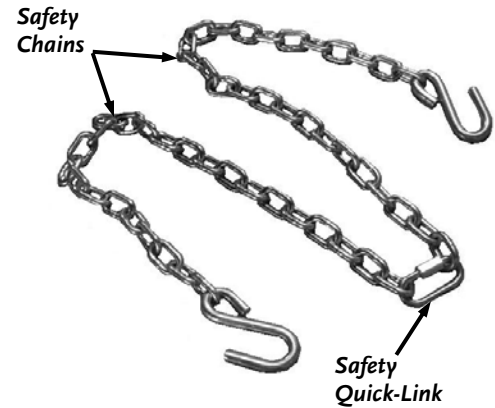

Figure 13
11. Link the ends of safety chains together with the safety quick-link and tighten the link's locknut securely with a wrench (**Figure 13**).